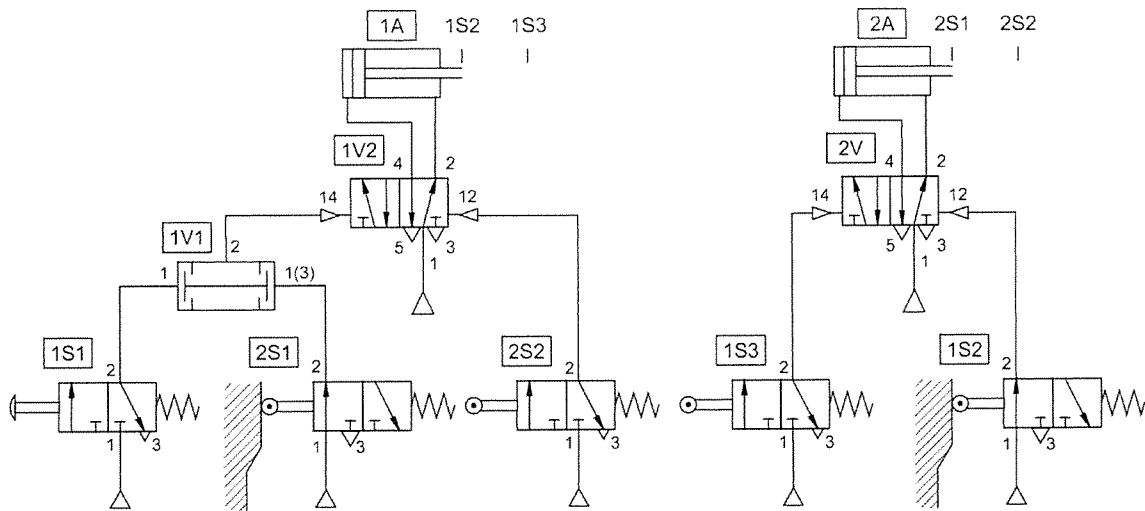

Figure Q3(d)(ii) (source: Pneumatics Basic Level, Festo)
d. Figure Q3(d)(i) and Q3(d)(ii) above is application of two cylinders are used to transfer parts from a magazine onto a chute. Give a step-by-step explanation of how this application works.